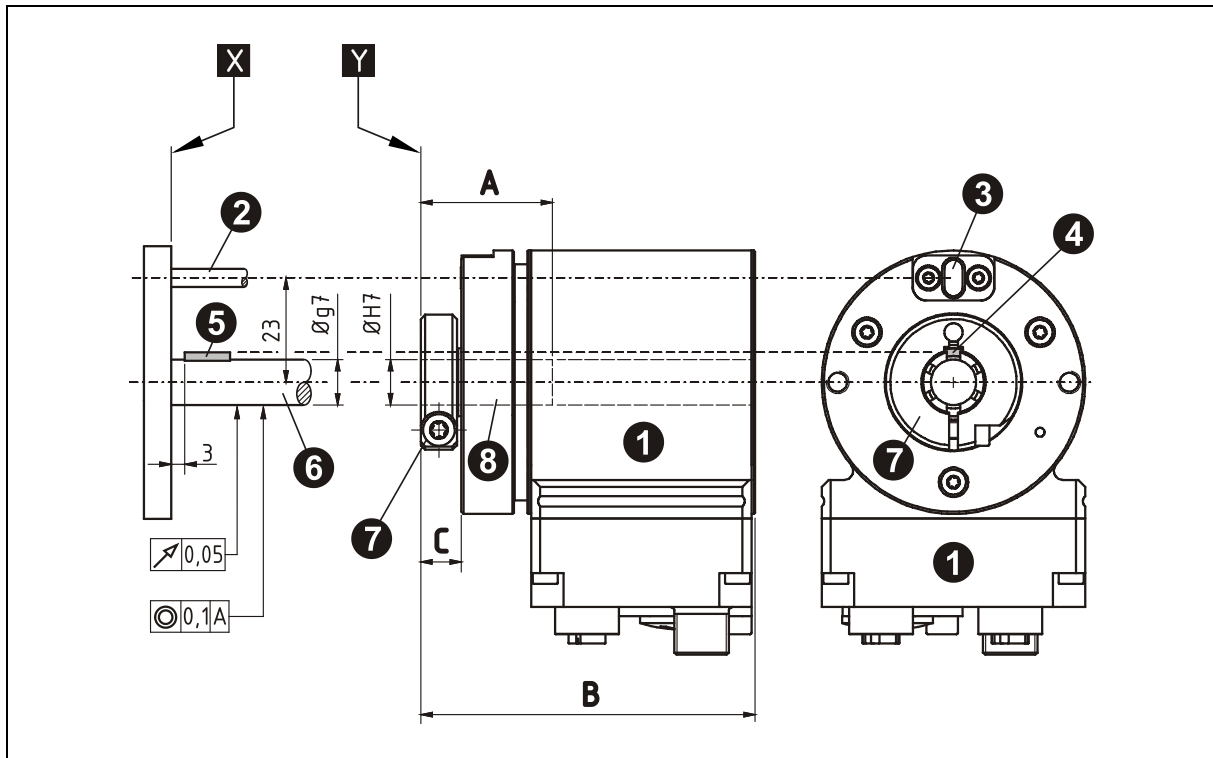

Figure 8: Installation with dowel pin and groove insert, illustration showing the principle
- A dowel pin is used to fix the measuring system on the drive end, see Figure 8.
- The dowel pin must extend at least 4 mm into the groove insert, max. 5.5 mm. The distance from the measuring system flange **Y** to the customer-provided device plane **X** must be  $> 1.5$  mm, see Figure 8.